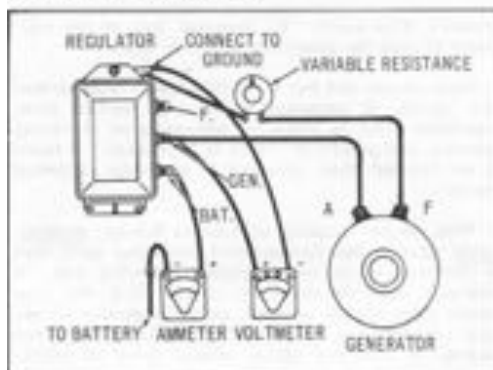

Figure 51-2.
A. TESTING THE GENERATING SYSTEM (SEE FIGURE 51-2)
B. TESTING CUTOFF RELAY UNIT CLOSING VOLTAGE (THE SAME CONNECTIONS ARE USED AS IN TEST A (FIG. 51-2))